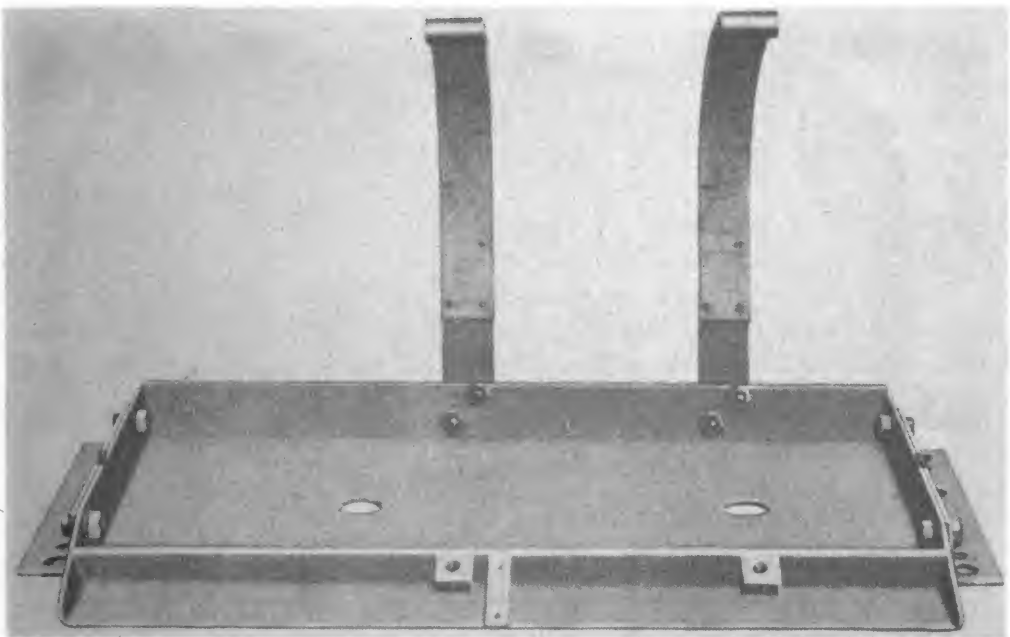
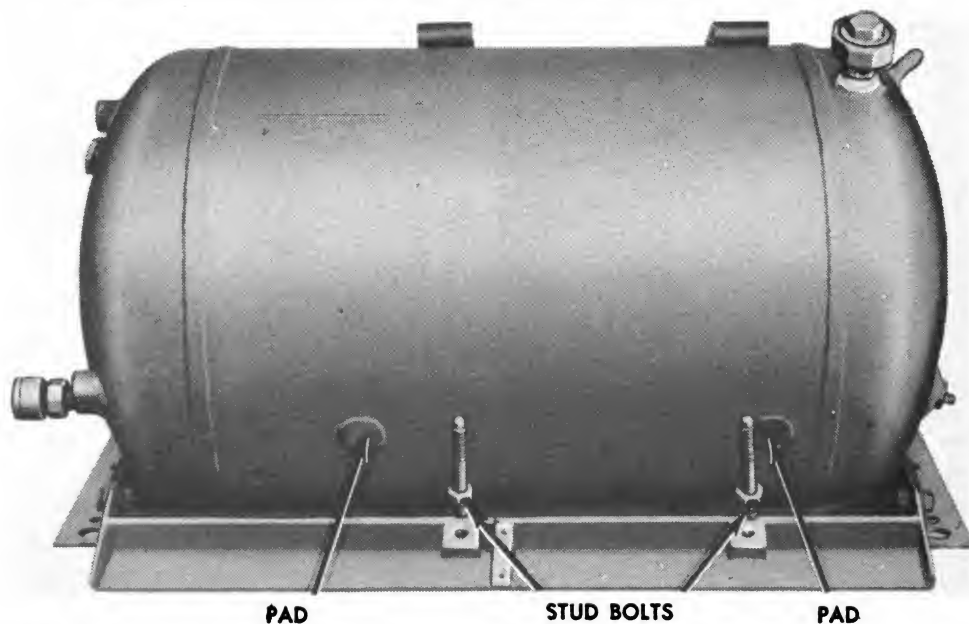
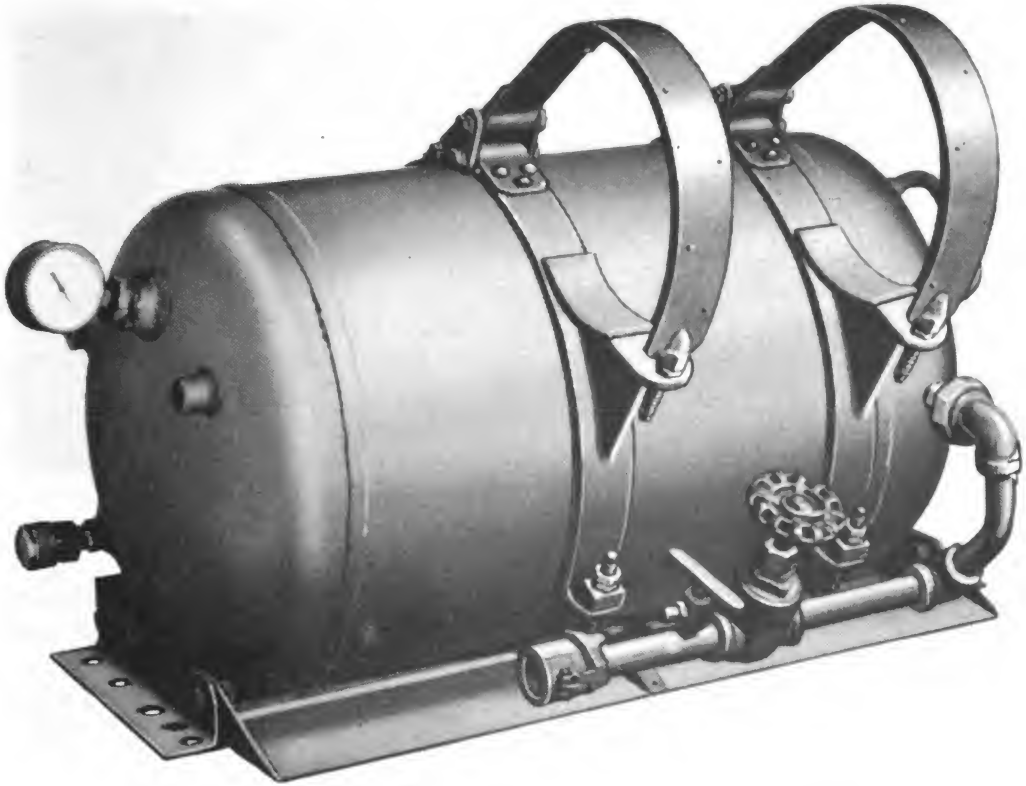

Fig. 15. Back fuel container straps bolted on baseplate of sponson fuel group.
Fig. 16. Fuel container of sponson fuel group on baseplate, prior to positioning fuel container and stud bolts.
Fig. 17. Straps tightened on fuel container of sponson fuel group. Pressure container straps are not yet tightened. Fuel outlet piping is installed.
**b. Back fuel container straps.** (1) Place the two back fuel container straps in position.
(2) Secure straps by two bolts, two lock washers, and two nuts (fig. 15).
**c. Fuel container.** (1) Attach rope to handle of fuel container and hoist the container to top of turret. Use care to protect fuel container outlet and pressure inlet to fuel container.
(2) With one man in turret to receive fuel container, place fuel container on floor of turret. Remove rope.
(3) Slide fuel container to opening in turret basket, in back of assistant driver's seat. Pass container to man in assistant driver's compartment, who, in turn, slides container onto baseplate (fig. 16).
(4) Drop the two circular metal pads on bottom of fuel container into two locating holes in baseplate. The fuel container is now located so that pressure line plate is forward and fuel container outlet is at rear and right of assistant driver's seat. Move fuel group as necessary on sponson shelf to facilitate installation.
(5) Install the two stud bolts in front of the baseplate.
**d. Front fuel container straps and pressure container straps** (fig. 17).
(5) Tighten union nut at fuel container outlet with two wrenches. Figure 17 shows fuel outlet piping installed.